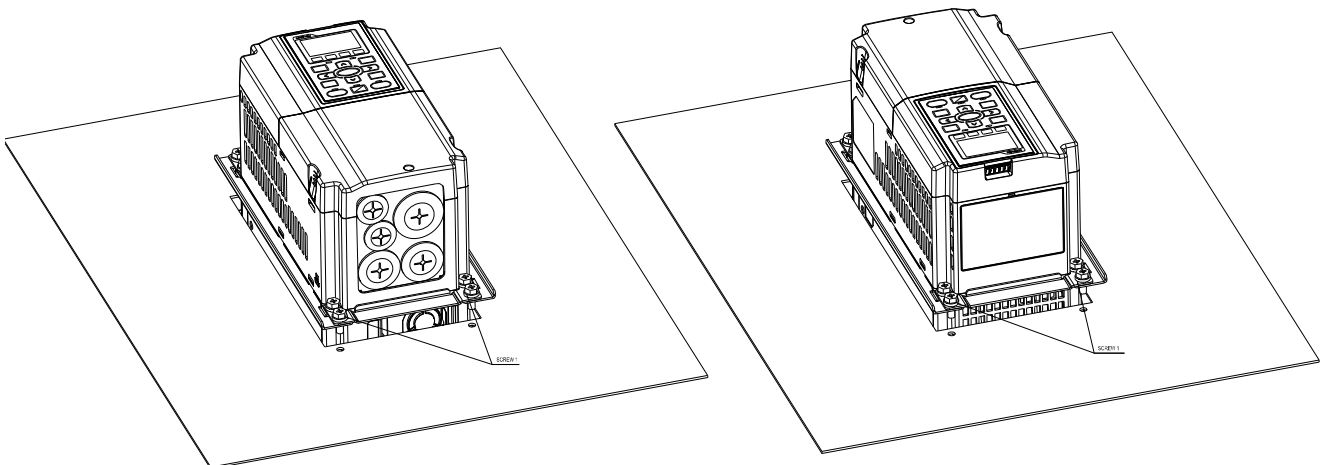

Figure 3
3. Plate installation, place 4 of the screw \*4 (M6) through accessory 2&3 and the plate, then fasten the screws. Screw torque: 25–30 kg-cm / [21.7–26 lb-in.] / [2.5–2.9 Nm] (figure 3)